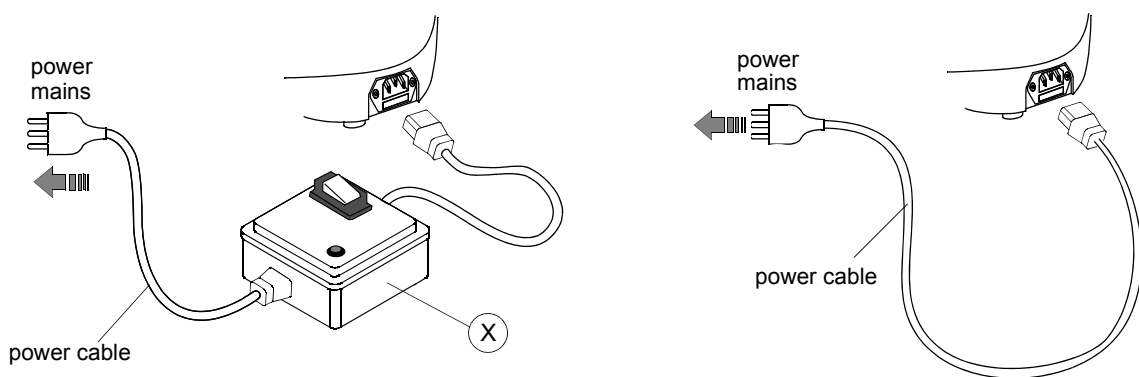

Fig. 9
first connect the safety device (X) to the key-cutting machine and the power cable then connect the free end of the power cable to the power mains (fig.9).
connect the key-cutting machine and the power cable then connect the free end of the power cable to the power mains (fig.9).